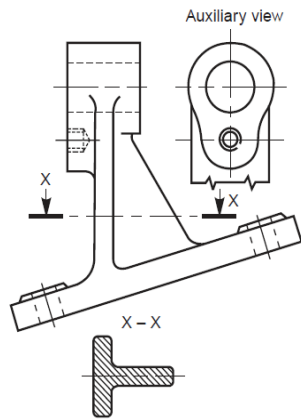

Fig. 4.5 Auxiliary section
3. **Auxiliary section:** Auxiliary sections may be used to supplement the principal views used in orthographic projections. A sectional view projected on an auxiliary plane, inclined to the principal planes of projection, shows the cross-sectional shapes of features such as arms, ribs and so on. In Fig. 4.5, auxiliary cutting plane X-X is used to obtain the auxiliary section X-X.